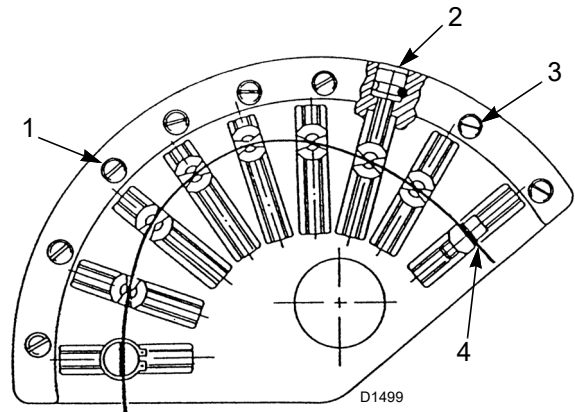

Fig. 34
The starting profile of cam 1)(Fig. 34) must be progressively adjusted by turning the screws 2)(Fig. 34).
For better adjustment repeatability, take care to stop the rotation of the cam unit when the upper bearing that slides on the profile 4)(Fig. 34) is aligned with one of the adjustment screws 2).
Key (Fig. 34)
turn the adjustment screws 2)(Fig. 34) after having loosened screws 3).
- Calibrate the air delivery by adjusting the variable profile cam with the screws 2)(Fig. 34 on page 32).
- With the optimal adjustment achieved, remember to lock the adjustment screws of the cam profiles by means of screws 3)(Fig. 34 on page 32).